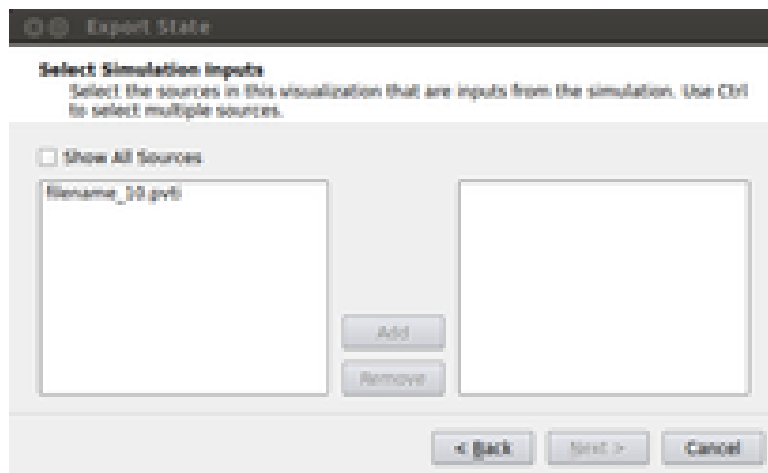

Figure 2.3: Selecting filename\_10.pvti as an input for the Catalyst pipeline.
4. After that, the user must select the sources (i.e. pipeline objects without any input connections) that the adaptor will create and add them to the output. Note that typically this does not include sources from the `Sources` menu since the generated Python script will instantiate those objects as needed (e.g. for seeds for a streamline). In the case shown in Figure 2.2 the source is the `filename_10.pvti` reader that is analogous to the input that the simulation code's adaptor will provide. The user can either double click on the desired sources in the left box to add them to the right box or select the desired sources in the left box and click Add. This is shown in Figure 2.3 below. After all of the proper sources have been selected, click on Next.